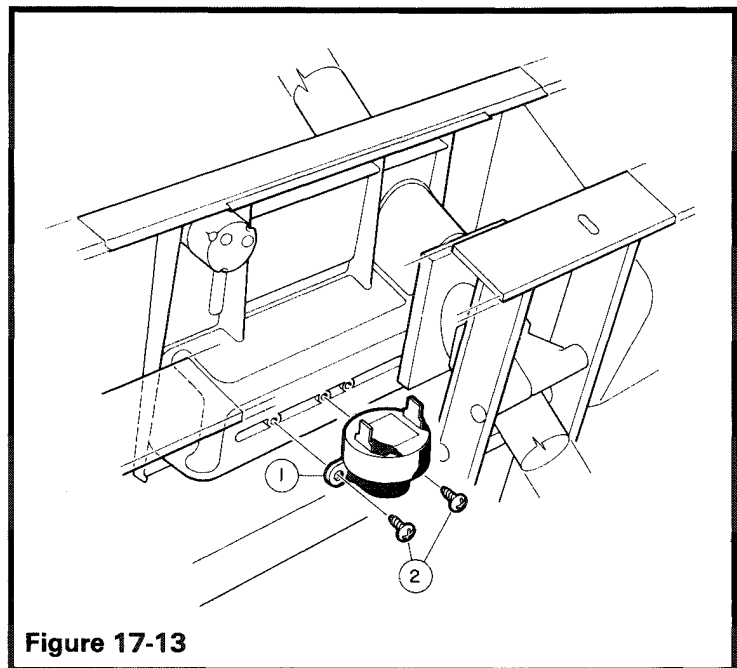

Figure 17-13
The reverse buzzer is located under the front body on the rear of the center dash panel (Figure 17-13).
2. Remove orange and white wires from buzzer terminals (Figure 17-13).
3. Remove screws (2) to remove buzzer.